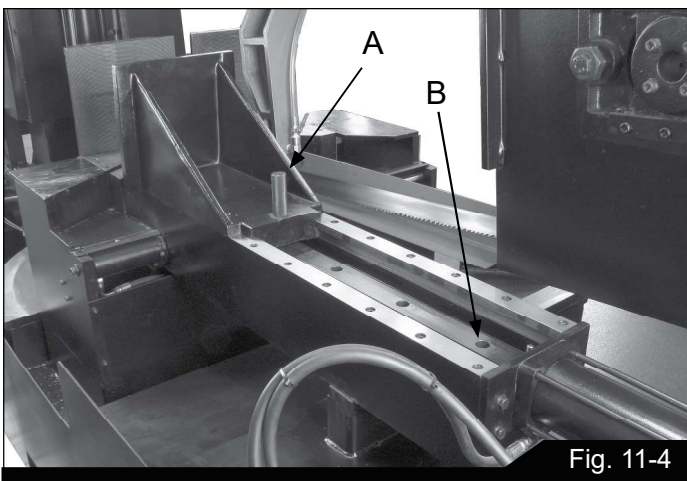

Fig. 11-4
The vise system is equipped with knurled pin (A) and vise rack with 6 holes. See Fig. 11-4.
2. If clamping smaller workpiece (width less than 6in./150mm) position pin A in same hole as shown in Fig. 11-4.